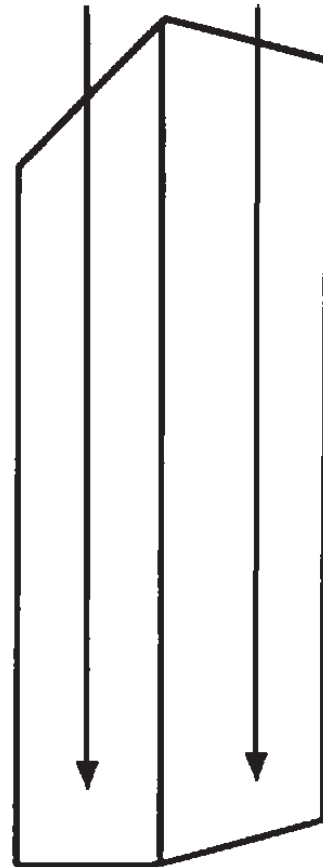

Fig. 2-6 – Checking the Mast for Plumb
7. With the plumb line, be sure the mast is vertical. Check the front and side of the mast, as shown in Fig. 2-6. When measured from the top of the mast to the bottom, the side of the mast should be within 1/4 inch of vertical. The front of the mast should be within 1/2 inch of vertical. The closer the mast is to true vertical, the smoother the lift will operate.